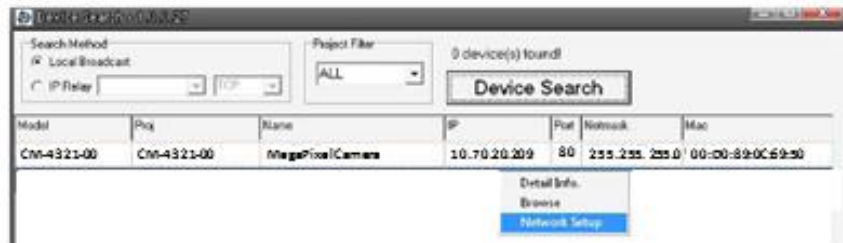

Figure 99: Device Search Application
3. In the Device Search application, click the **Device Search** button. See Figure 99: Device Search Application.